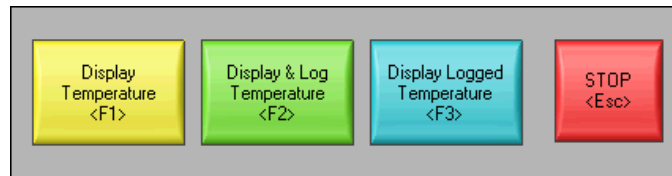

Figure 12.4
The front panel contains four Boolean buttons (Figure 12.4). The mechanical action of the first three buttons is **Latch When Pressed**. This setting changes the control value when you click it and retains the new value until the VI reads it once. At this point the control reverts to its default value, even if you keep pressing the mouse button. This action is similar to a circuit breaker and is useful for stopping **While Loops** or for getting the VI to perform an action only once each time you set the control. The mechanical action of the **Stop** button is **Latch When Released**. This setting changes the control value only after you release the mouse button within the graphical boundary of the control. When the VI reads it once, the control reverts to the old value. This action guarantees at least one new value. This action is similar to dialog box buttons and system buttons.
3. In the **Key Assignment** section, assign the shortcut key shown in the Figure 12.4.
4. Repeat list, item 2, p. 248 and list, item 3, p. 248 for each control.